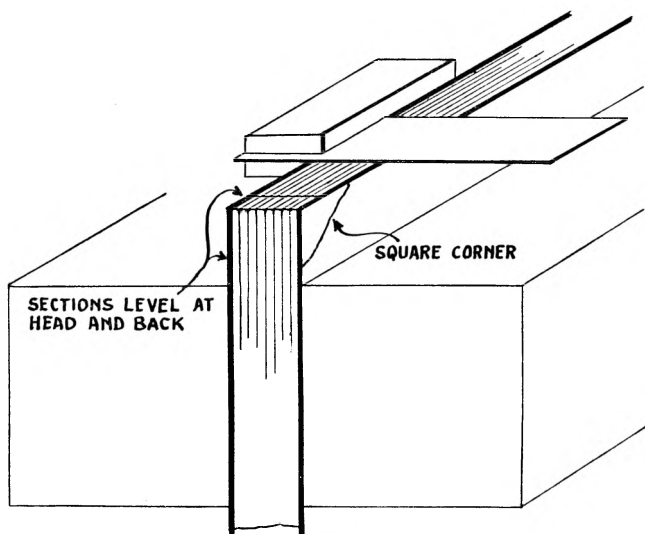

Fig. 42
the press, fig. 42. Check to see that the sections are quite level at the head and back.
5. The position of the tapes and kettle-stitches is squared across the back with a try-square and pencil, fig. 42. The term kettle-stitch is derived from the German word *kettenstich* which means a chain stitch. For a small book two tapes will suffice; but for a book of the size of the average novel, three tapes are usual, the number of tapes being increased as the size of the book dictates.